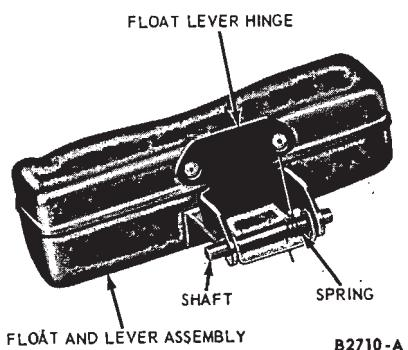

FIG. 13—Float Assembly
7. Slide the shaft out of the float assembly and remove the spring (Fig. 13).